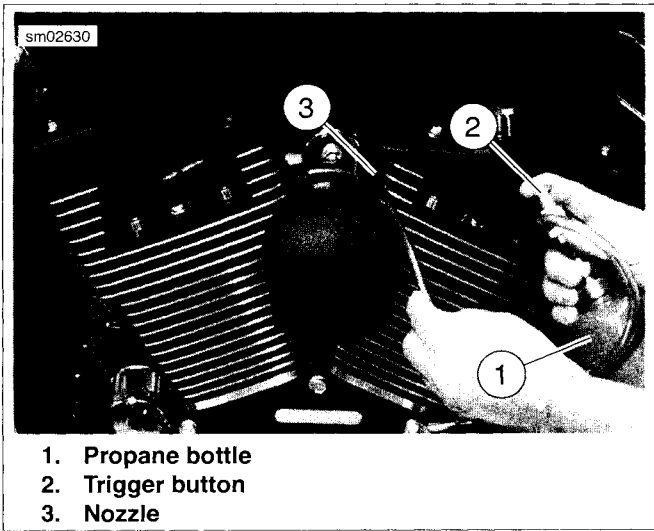

Figure 4-59. Checking for Leaks
3. See Figure 4-59. Aim nozzle (3) toward possible sources of leak such as intake manifold mating surfaces.
4. Press and release trigger button (2) to dispense propane. Tone of engine will change when propane enters source of leak. Repeat as necessary to detect leak.